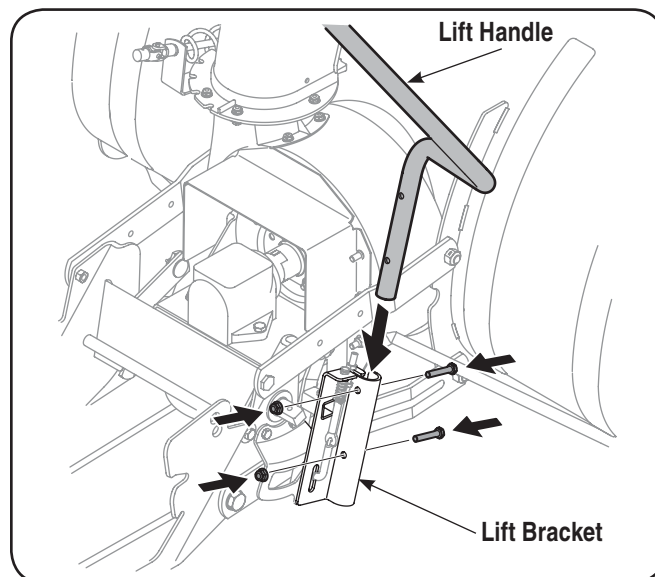

Figure 3-13
1. Attach lift handle to lift bracket on the right side of auger housing assembly with two hex screws and two flange nuts provided. See Fig. 3-13.